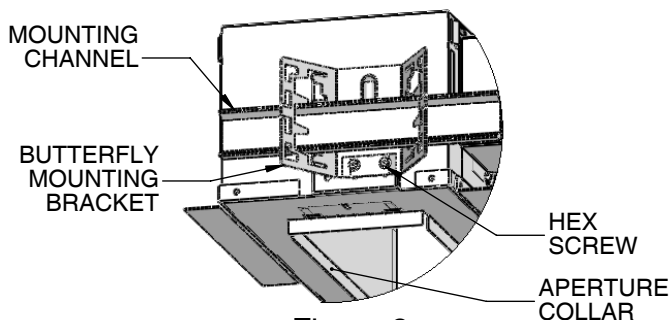

Figure 2
2. Fixture comes equipped with universal BUTTERFLY MOUNTING BRACKETS that can take common 1" or 1-1/2" black iron or galvanized MOUNTING CHANNELS (supplied by others). See Fig 2.